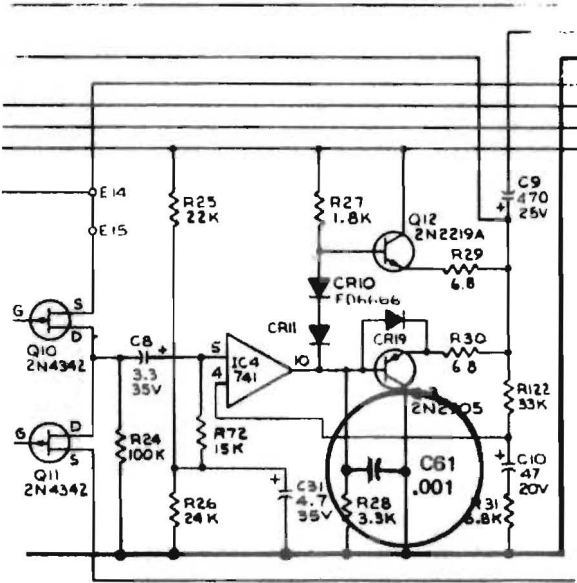

FIGURE 2
4. Change Instruction Manual schematics (see figure 2) and parts list to reflect the new capacitor, C-61.